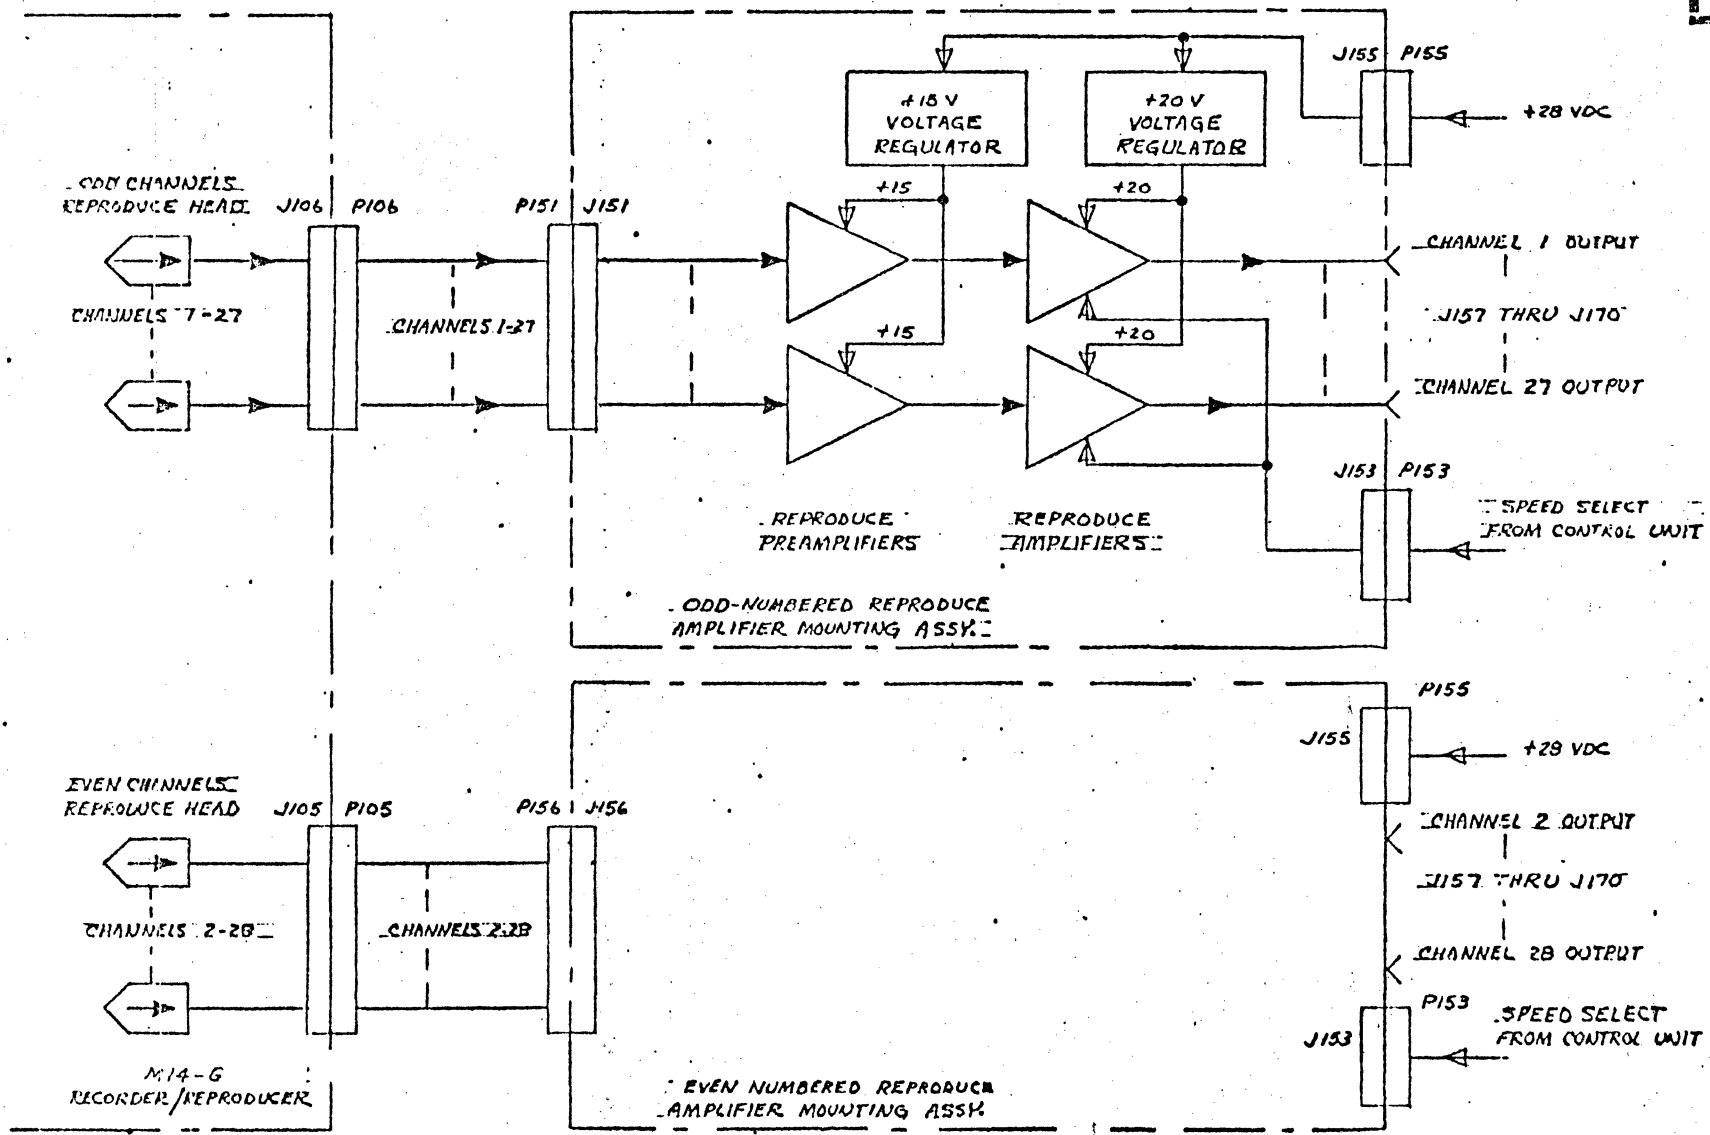

Figure A3-1
**A3.2 SYSTEM DESCRIPTION.** Refer to Figure A3-1. The M14-G 28-Track Reproducer, with Reproduce Amplifier Modules 94001221-3 and 94001221-4, provide simultaneous 28-channel reproduce capability at any of six electrically selectable tape speeds of 1-7/8, 3-3/4, 7-1/2, 15, 30, and 60 inches-per-second. The basic M14-G Record/Reproduce unit provides only 14 channels of reproduction at each of the above tape speeds. Both the 94001221-3 and -4 RAM units contain 14 Reproduce Amplifiers (85004971) and seven Dual-Channel Preamplifiers (85004961) each. A +15-Volt dc Voltage Regulator (85003001) and a +20-Volt dc Voltage Regulator (85002601) are also contained in each RAM unit to provide operating voltages for the Reproduce Amplifiers and Preamplifiers. The larger current mode preamplifiers are located within the RAM (94001221-3 and -4) for the M14-G Reproducer (28-tracks). The 94001221-4 RAM unit has no local controls, and is operated automatically by control signals from the M-14G Reproducer through the control unit 94001221-3. RAM 94001221-4 is separate from the M14-G Reproducer and is slide-mounted in a standard 19-inch rack directly beneath the M14-G Reproducer housing. Mating connector cables 50001721 (Monitor/Remote) and 5001731 (Remote/Power) provide system interconnect between the 94001221-4 and the M14-G Reproducer.